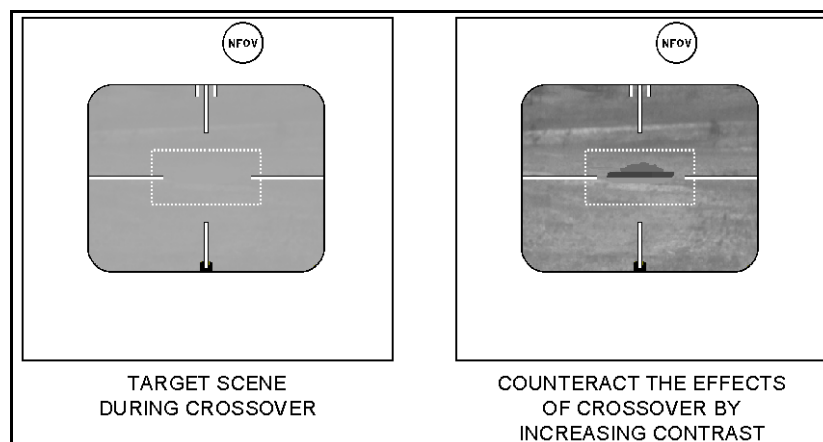

Figure E-32. Infrared crossover effects.
- **Corrective action.** The gunner can use this capability to overcome the effects of crossover by adjusting contrast and brightness. In addition, crossover will not occur for all parts of the target at the same time. Part of the target will always have a measurable ΔT between it and the background so the gunner can determine the target's location (Figure E-32).